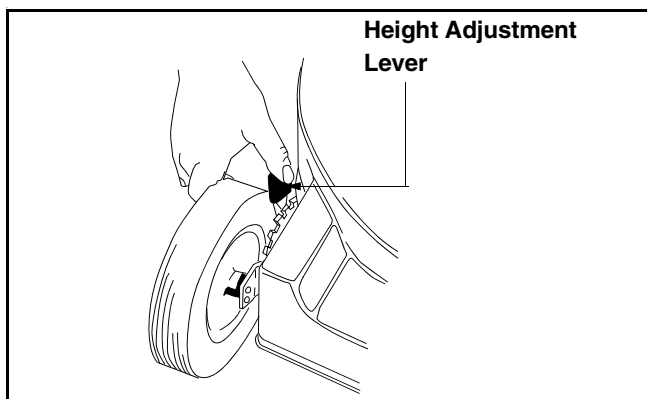

Figure 14
- Simply depress the lever towards the wheel and move the lever assembly to desired position. See Figure 14.